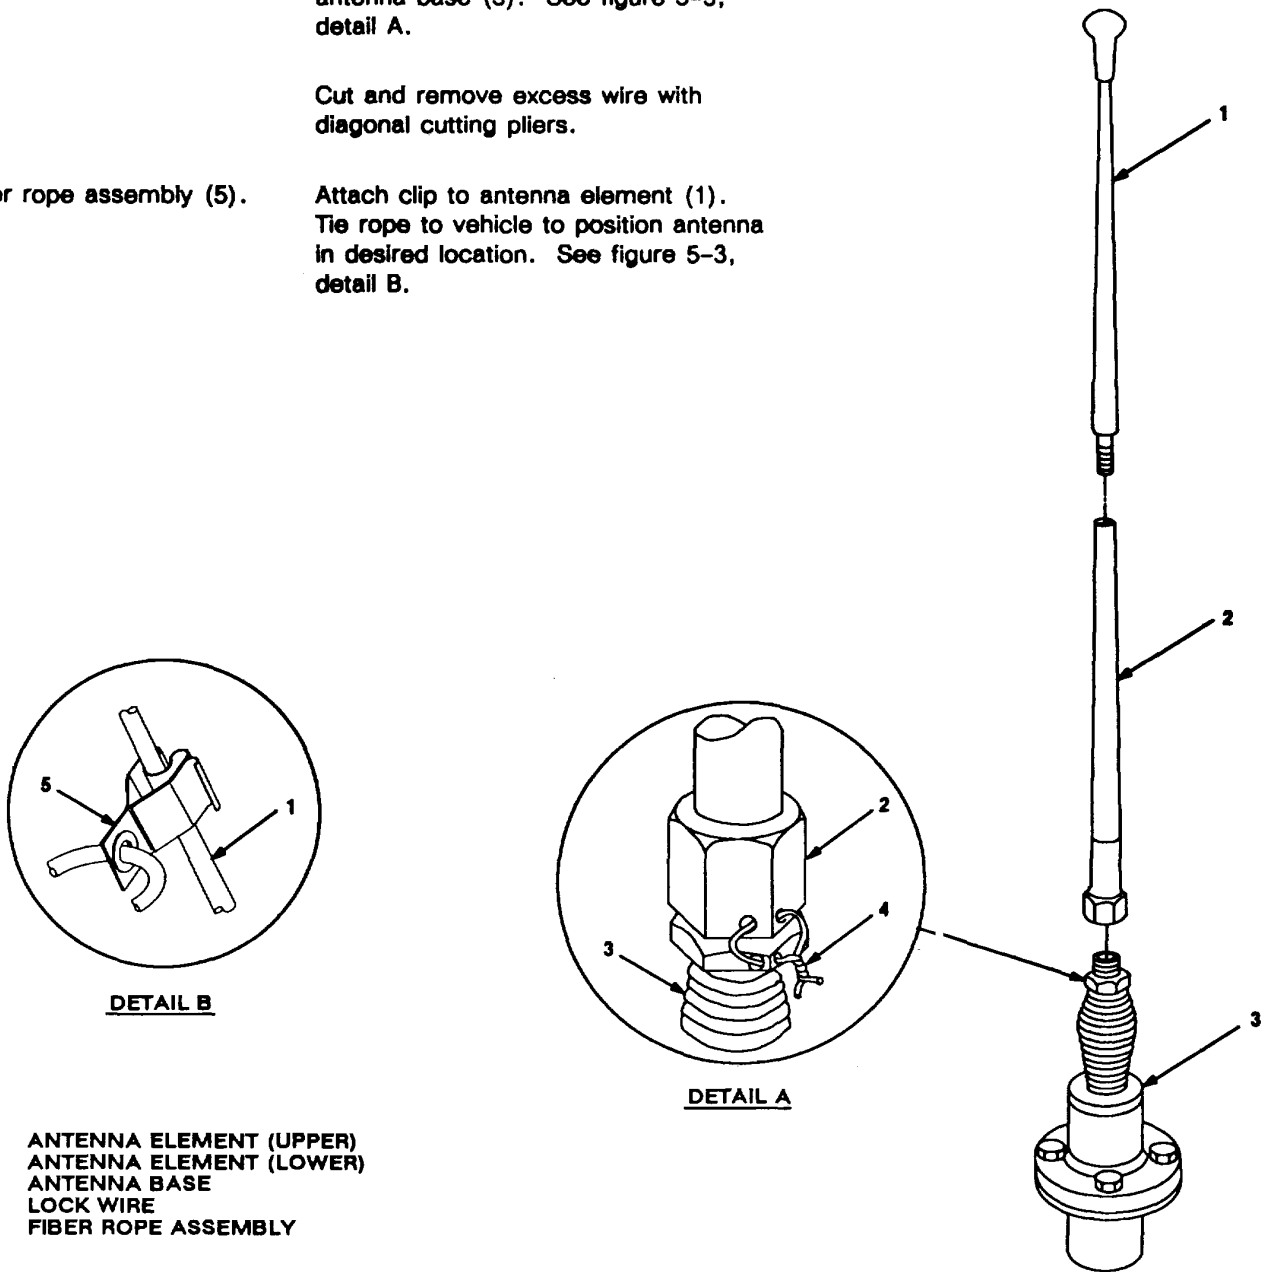

Figure 5-3. Top Antenna Assembly Installation
a. Antenna elements (1, 2).	Apply silicone compound to element threads and assemble. See figure 5-3.
b. Antenna element (2).	Install and hand-tighten to antenna base (3).
c. Lock wire (4).	Install to antenna element (2) and antenna base (3). See figure 5-3, detail A. Cut and remove excess wire with diagonal cutting pliers.
d. Fiber rope assembly (5).	Attach clip to antenna element (1). Tie rope to vehicle to position antenna in desired location. See figure 5-3, detail B.